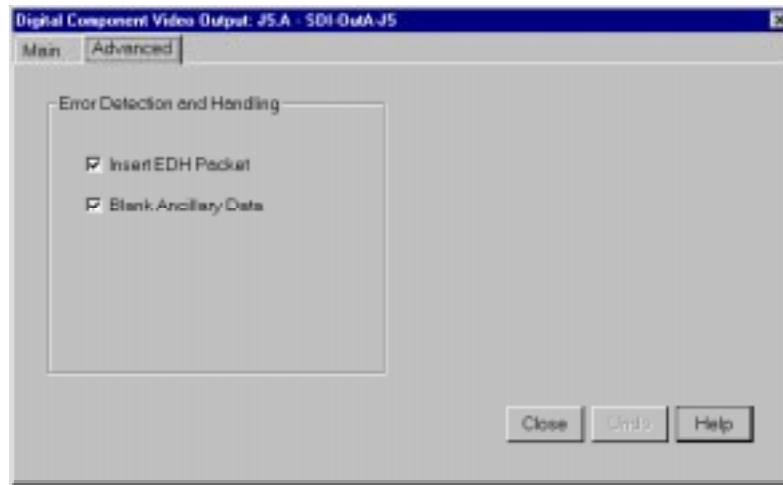

Figure 27. Serial Digital Video Output dialog box, Advanced tab
1. Click the **Advanced** tab to view the Serial Digital Component Video Output Advanced settings (see Figure 27).